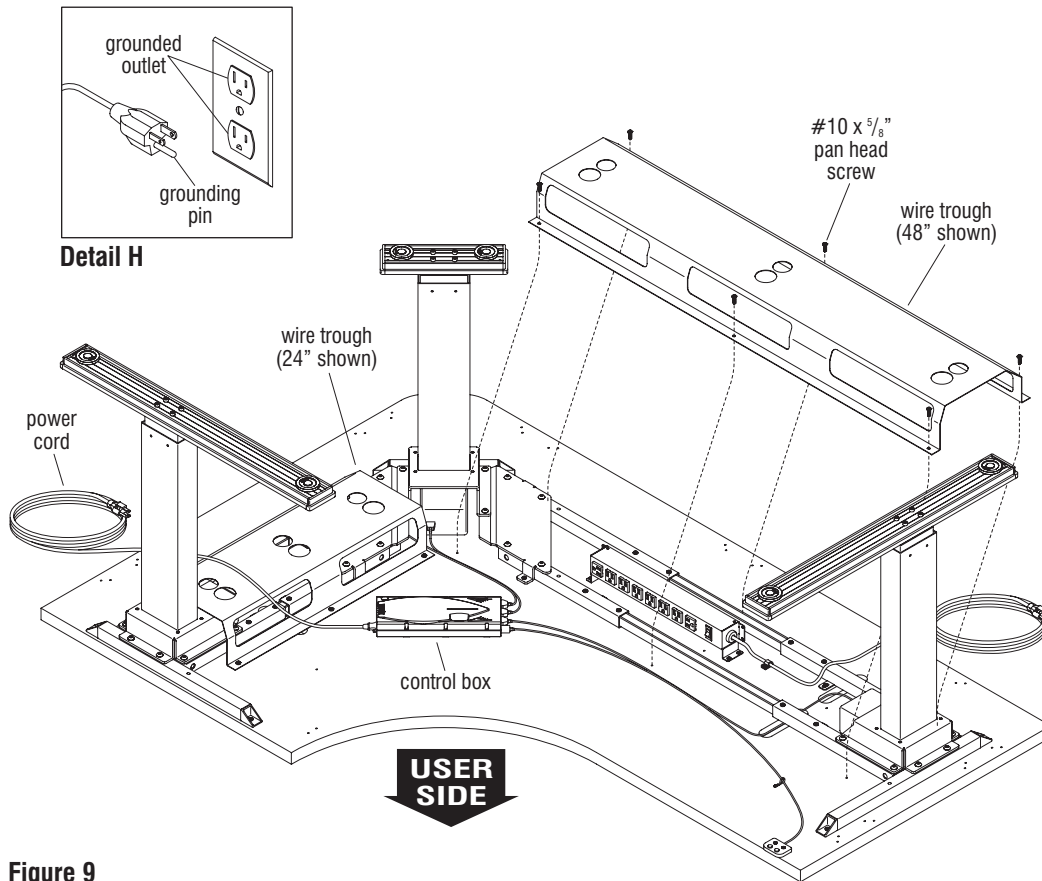

Figure 9
1. Align the wire trough mounting holes to the appropriate holes in the tabletop, making sure the larger cutouts on the trough are facing the user side of the table. Using six #10 x 5/8" pan head screws, secure the wire trough to the tabletop as illustrated (Figure 9).